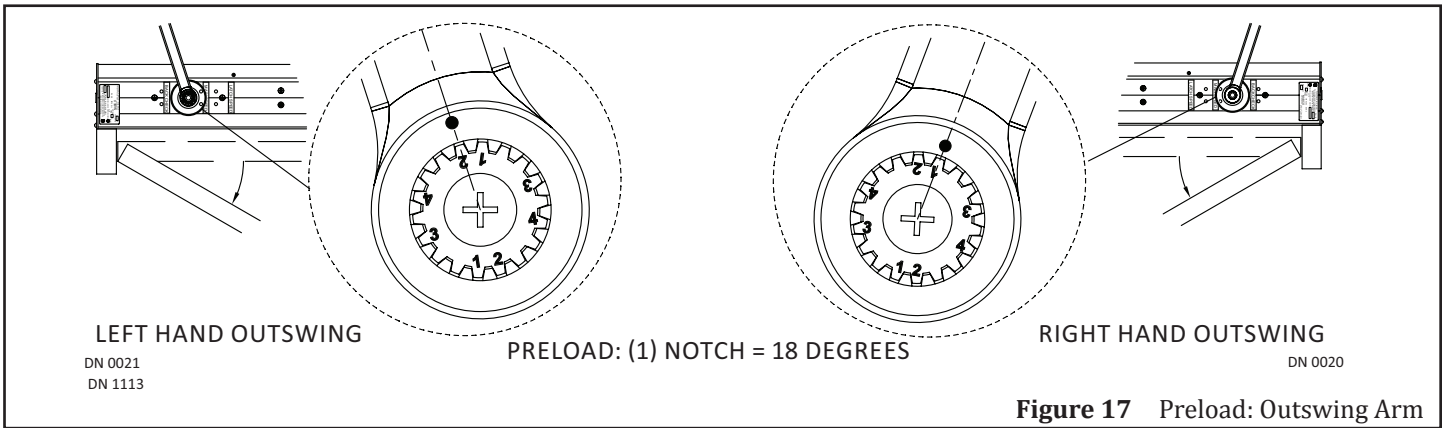
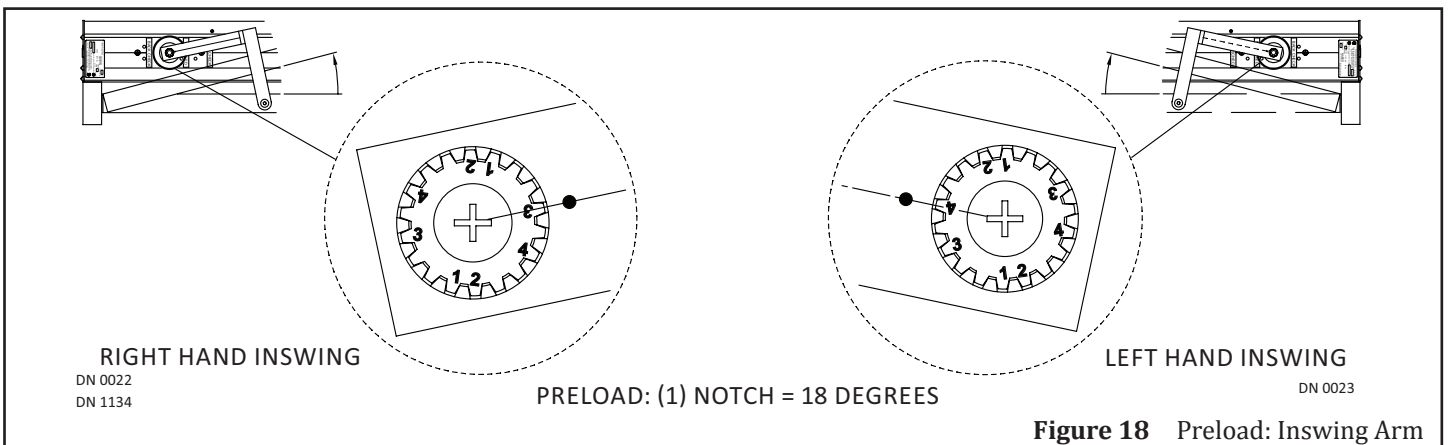
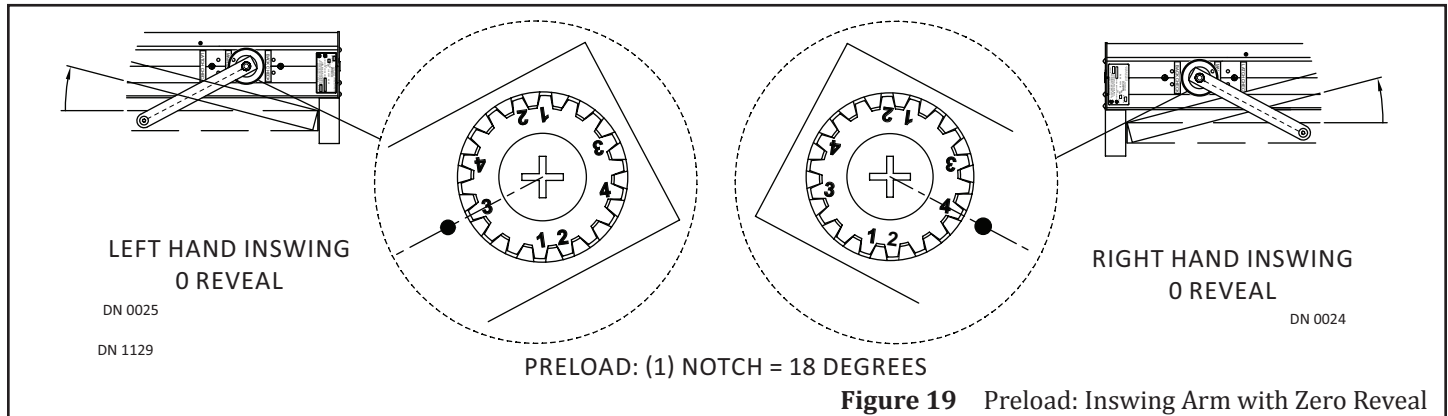

Figure 17 Preload: Outswing Arm
Figure 18 Preload: Inswing Arm
Figure 19 Preload: Inswing Arm with Zero Reveal
3. Please see Figure 17, or Figure 18, or Figure 19.